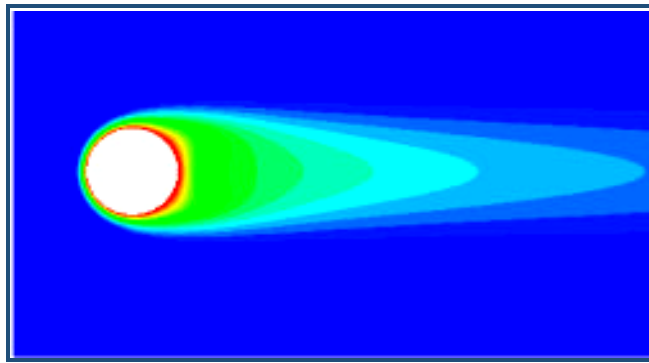

Figure 10.1: Temperature contour from a hot rod
5. Analyze the results using the Ansys CFD post to get the contour as shown in Figure10.1.